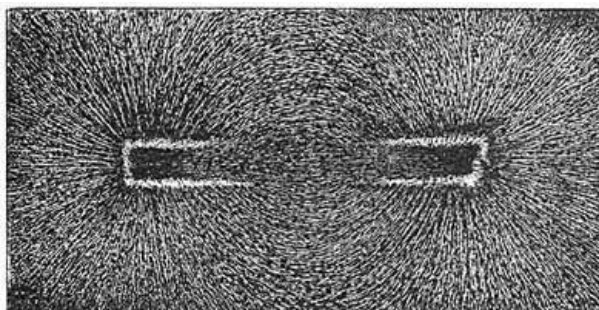

FIG. 224.—Iron filings scattered over a magnet arrange themselves in definite lines.
**306. The Extent of Magnetic Attraction.** If a thin sheet of paper or cardboard is laid over a strong, bar-shaped magnet and iron filings are then gently strewn on the paper, the filings clearly indicate the position of the magnet beneath, and if the cardboard is gently tapped, the filings arrange themselves as shown in Figure 224. If the paper is held some distance above the magnet, the influence on the filings is less definite, and finally, if the paper is held very far away, the filings do not respond at all, but lie on the cardboard as dropped.